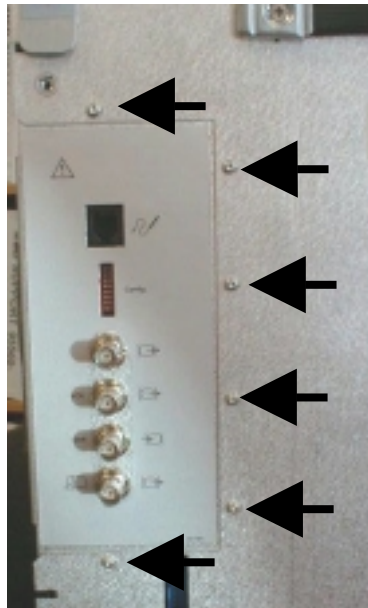

Fig. 6. 1-24. Screws on Core board connector plate
1. Unscrew the six screws (M3×6) on the Core board connector plate, see Fig. 6. 1-24.